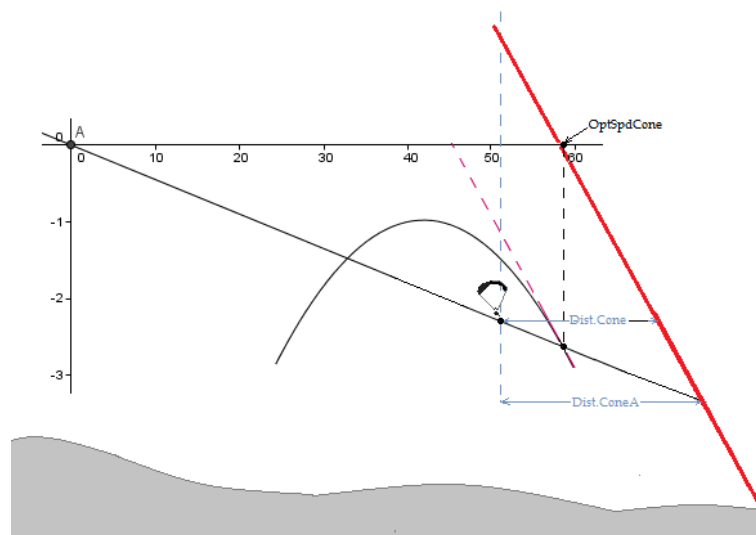

Figure 5.2: Conical End of Speed Section
Consider the same task represented in Figure 4.5, but now the *End of Speed Section* (ESS) is a cone with 4:1 ratio. In order to set up the task you should make the same steps defined above except the step 5. As the cone as a ratio of 4:1 in this step you should set the *Cone* parameter to 4.0. The NAV SD provides some information to optimize the navigation when the ESS is conical. This information is provided through 5 additional data fields which can be included in a Layout page. Each of the data fields is explained in Section 3.2, but for a better understanding consider the situation of Figure 5.2.
In the example of Figure 5.2, the pilot is flying to the ESS at a certain true air speed (TAS). There is an optimum TAS value which minimizes the time to reach the ESS. This value depends on the polar and cone ratio, and is not affected by the wind or thermals. The NAV SD calculates the optimal TAS value and show this in the *OptSpdCone* data field. In order to know the TAS the pilot needs a TASProbe. So for the pilots who do not have the TASProbe the NAV SD calculates the optimal ground speed by adding a Wind component to the TAS. The optimal ground speed is shown in the *OptGndSpdCone* Data Field.
When the ESS is a cylinder the distance to the ESS does not depend on the pilot altitude. On the contrary, when the ESS is a cone the distance to the ESS depends on the altitude. Because of this, the NAV SD provide 2 distances in 2 different data fields. The `Dist.Cone` data field shows the distance to the ESS at the current pilot altitude (see Figure 5.2). As the glider glide ratio (GR) is usually positive and finite the altitude at which the pilot reaches the ESS is different from the current altitude, so real distance to the cone depends on the GR. The `Dist.ConeA` data field shows the horizontal distance to the ESS considering the expected average GR through the remaining path (see Figure 5.2).